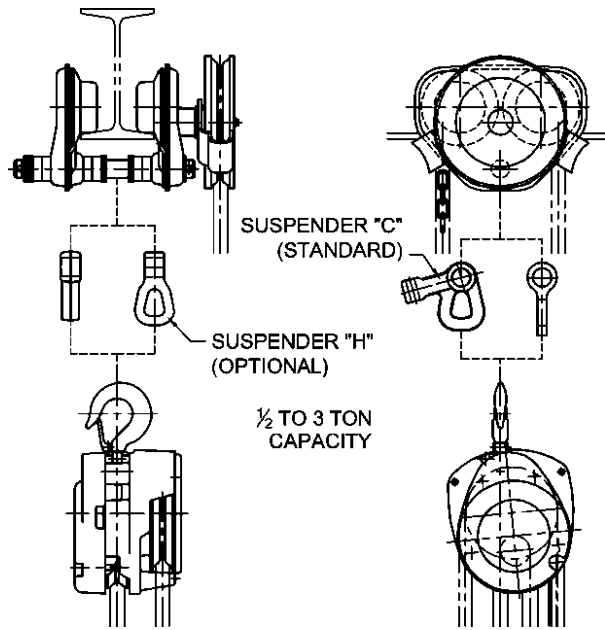
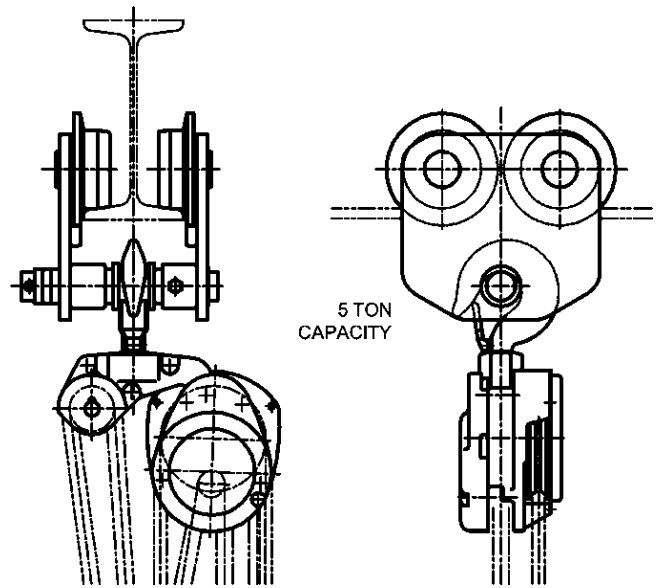

Figure 3-7 CF Hook Mounting
Figure 3-8 CF Hook Mounting
- 3.1.5 Harrington Model CF Series hoists can be hook mounted to the TF2 trolley using suspender "C" or optional suspender "H" ½ Ton to 3 Ton, as shown in **Figure 3-7**. 5 Ton models hook to the trolley shaft, as shown in **Figure 3-8**.